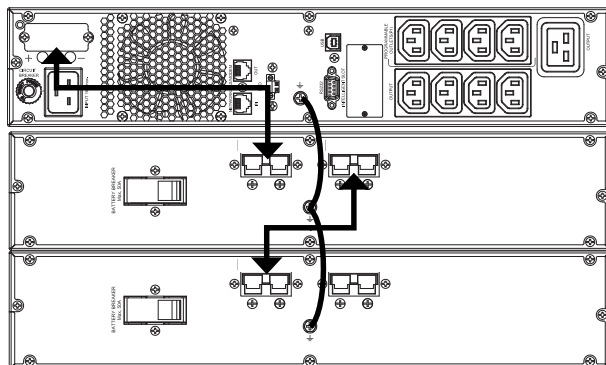

Fig. 9. Connection to battery modules.
Plug the connector at one end of the cable into the corresponding socket on the SPS.ADVANCE and the one on the other end into the battery module (see Fig. 9).
Connect the earth cable to the corresponding points identified, either terminal or screw (see Fig. 9).
- Fig. 9 shows the connection of a 3 kVA device in a rack arrangement with two battery modules. For a larger number, proceed in a manner similar to those shown in the illustration.